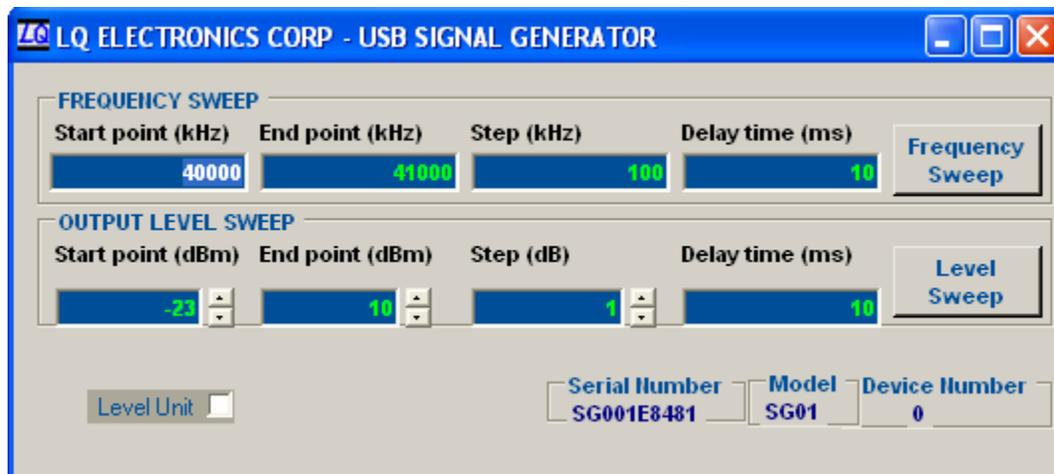

Fig.4 Sweep control panel
- 3) Third is Sweep control panel (see Fig. 4), which shows the sweep functions of the SG01 software.
Click the button, Sweep Control Panel (Fig.4) will show
If you need to sweep the frequency or output power level, click “Sweep” button, the Sweep Control Panel will appear (see Fig.4).
Click “Sweep” button” in SG01 Control Panel, Sweep Control Panel will show in Fig.4.
2) Another is output power level sweep. You can input sweep start power level by click up-down button at “Start Point” window and end power level by click up-down button at “End Point” window, input power level step by click up-down button at “Step” window at “Output Level Sweep” line. Delay time unit is millisecond (ms). Maximum delay time is 60 seconds. Power level sweep unit can be set to dBm or dBuV by ticking “Level Unit” in Fig. 4.